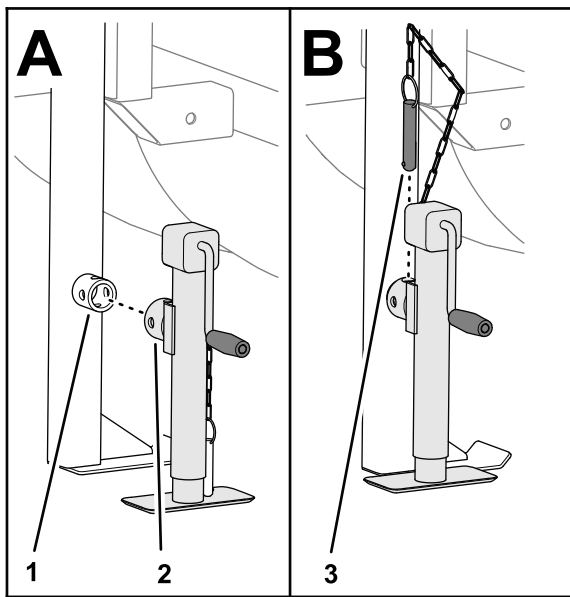

Figure 24
2. Assemble the jack vertically onto the rear-jack leg and secure the jack with the pin (Figure 24).